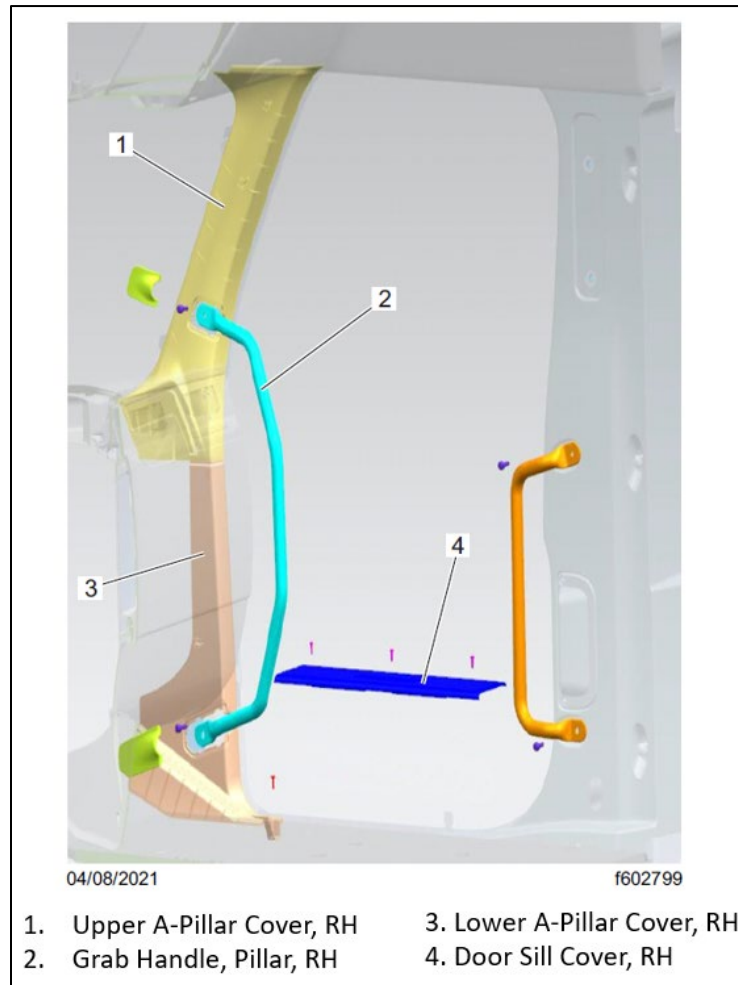

Fig. 13, A-Pillar Door Sill, Grab Handle, and Upper and Lower Cover Locations
8. Install the RH side upper and lower A-pillar covers. See Fig. 13. Tighten the fasteners 5 to 7 lbf.ft (6 to 9 N.m).
9. Install the RH side pillar grab handle. See Fig. 13. Tighten the fasteners 11 to 13 lbf.ft (14 to 18 N.m).
10. Install the RH side door sill cover. See Fig. 13. Tighten the fasteners 5 to 7 lbf.ft (6 to 9 N.m).